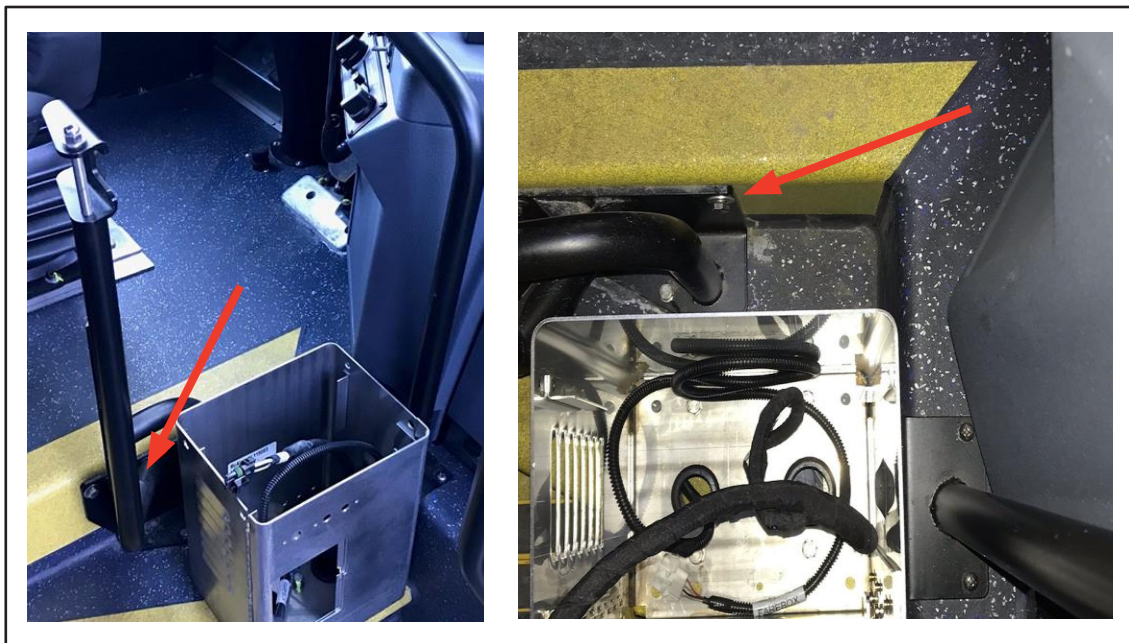

Figure 1 - Location of driver door stanchion
- 1.4. Locate the driver door stanchion between farebox and riser inside the driver compartment (see figure 1).